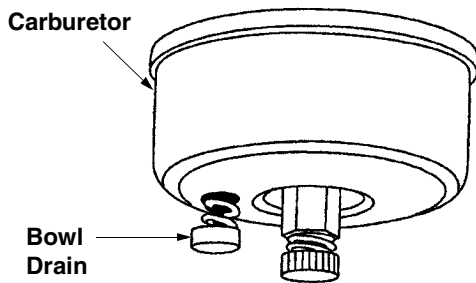

Figure 36
- Drain carburetor by pressing upward on bowl drain, located below the carburetor cover. See Figure 36.
- Remove the spark plug and pour one (1) ounce of engine oil through the spark plug hole into the cylinder. Cover spark plug hole with a rag and crank the engine several times to distribute the oil. Replace spark plug.